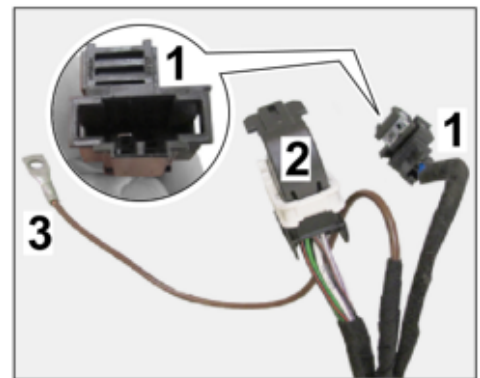

Figure 15
- 2.7.1 Connect plug connection (2-pin ⇒ *Figure 15*) for brake booster preparation in the luggage compartment area at the left.